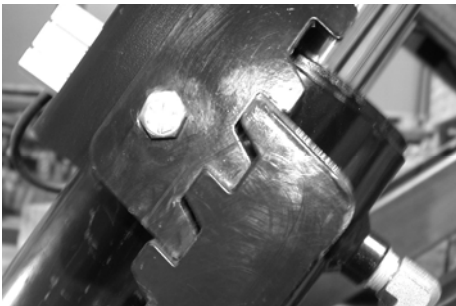

Figure 13-Safety lock position for bleeding.
3. Using the “BYPASS” button inside the console, start raising the lift to the last lock position as shown in Figure 13.
NOTE: Ensure the gauges inside the console are monitored and pressure does not reach 1000 psi. If 1000 psi is reached, lower the lift onto the locks to relieve the pressure. Continue to raise the lift until both sides of the lift are on the last lock position. (Figure 13)